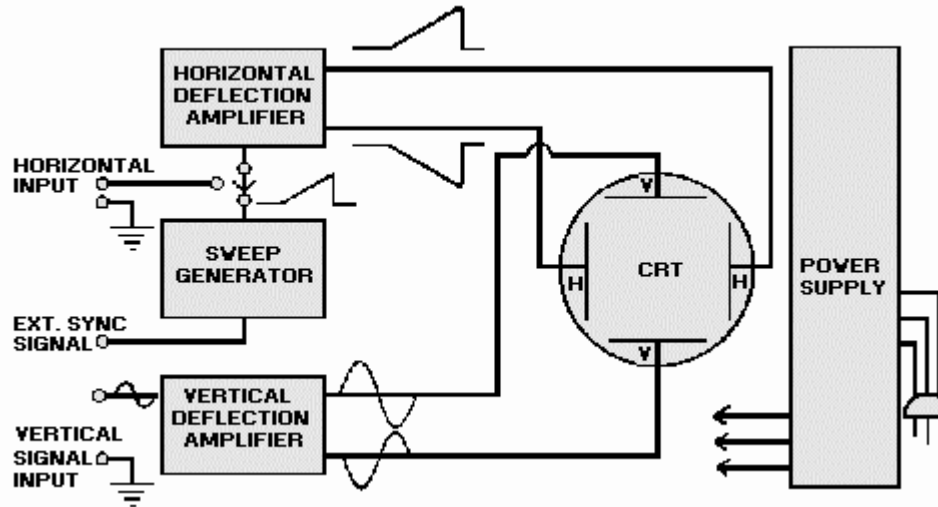

Figure 6-13.—Block diagram of an oscilloscope.
divided into the basic sections shown in figure 6-13: (1) a CRT, (2) a group of control circuits that control the waveform fed to the CRT, (3) a power supply, (4) sweep circuitry, and (5) deflection circuitry.